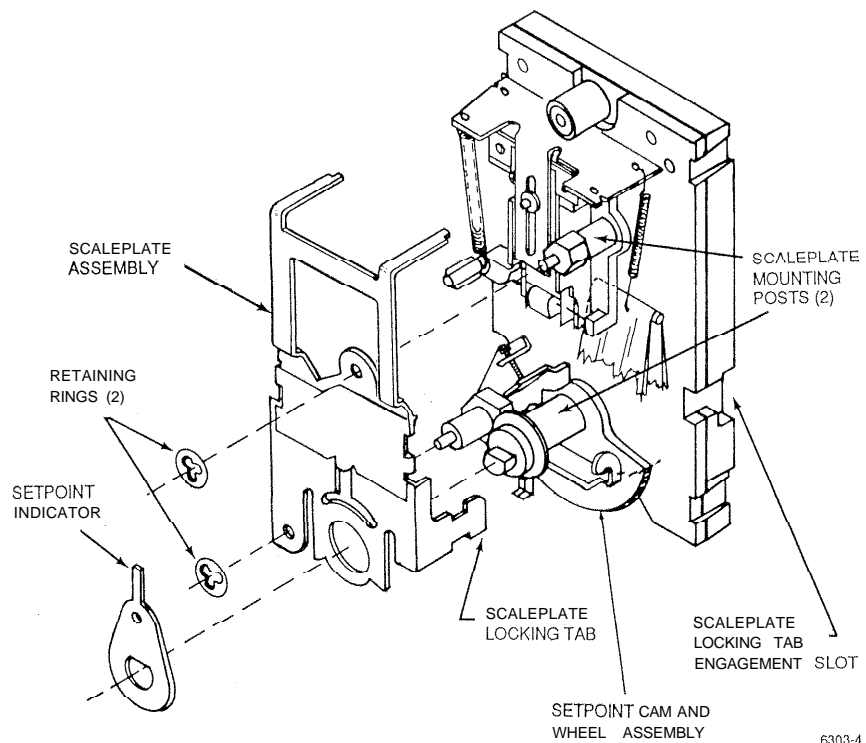

Fig. 7. Scaleplate Replacement.
- 2 Insert a small screwdriver blade between the setpoint indicator and the scaleplate assembly (Fig. 7) and pry the setpoint indicator up off the setpoint cam and wheel assembly.